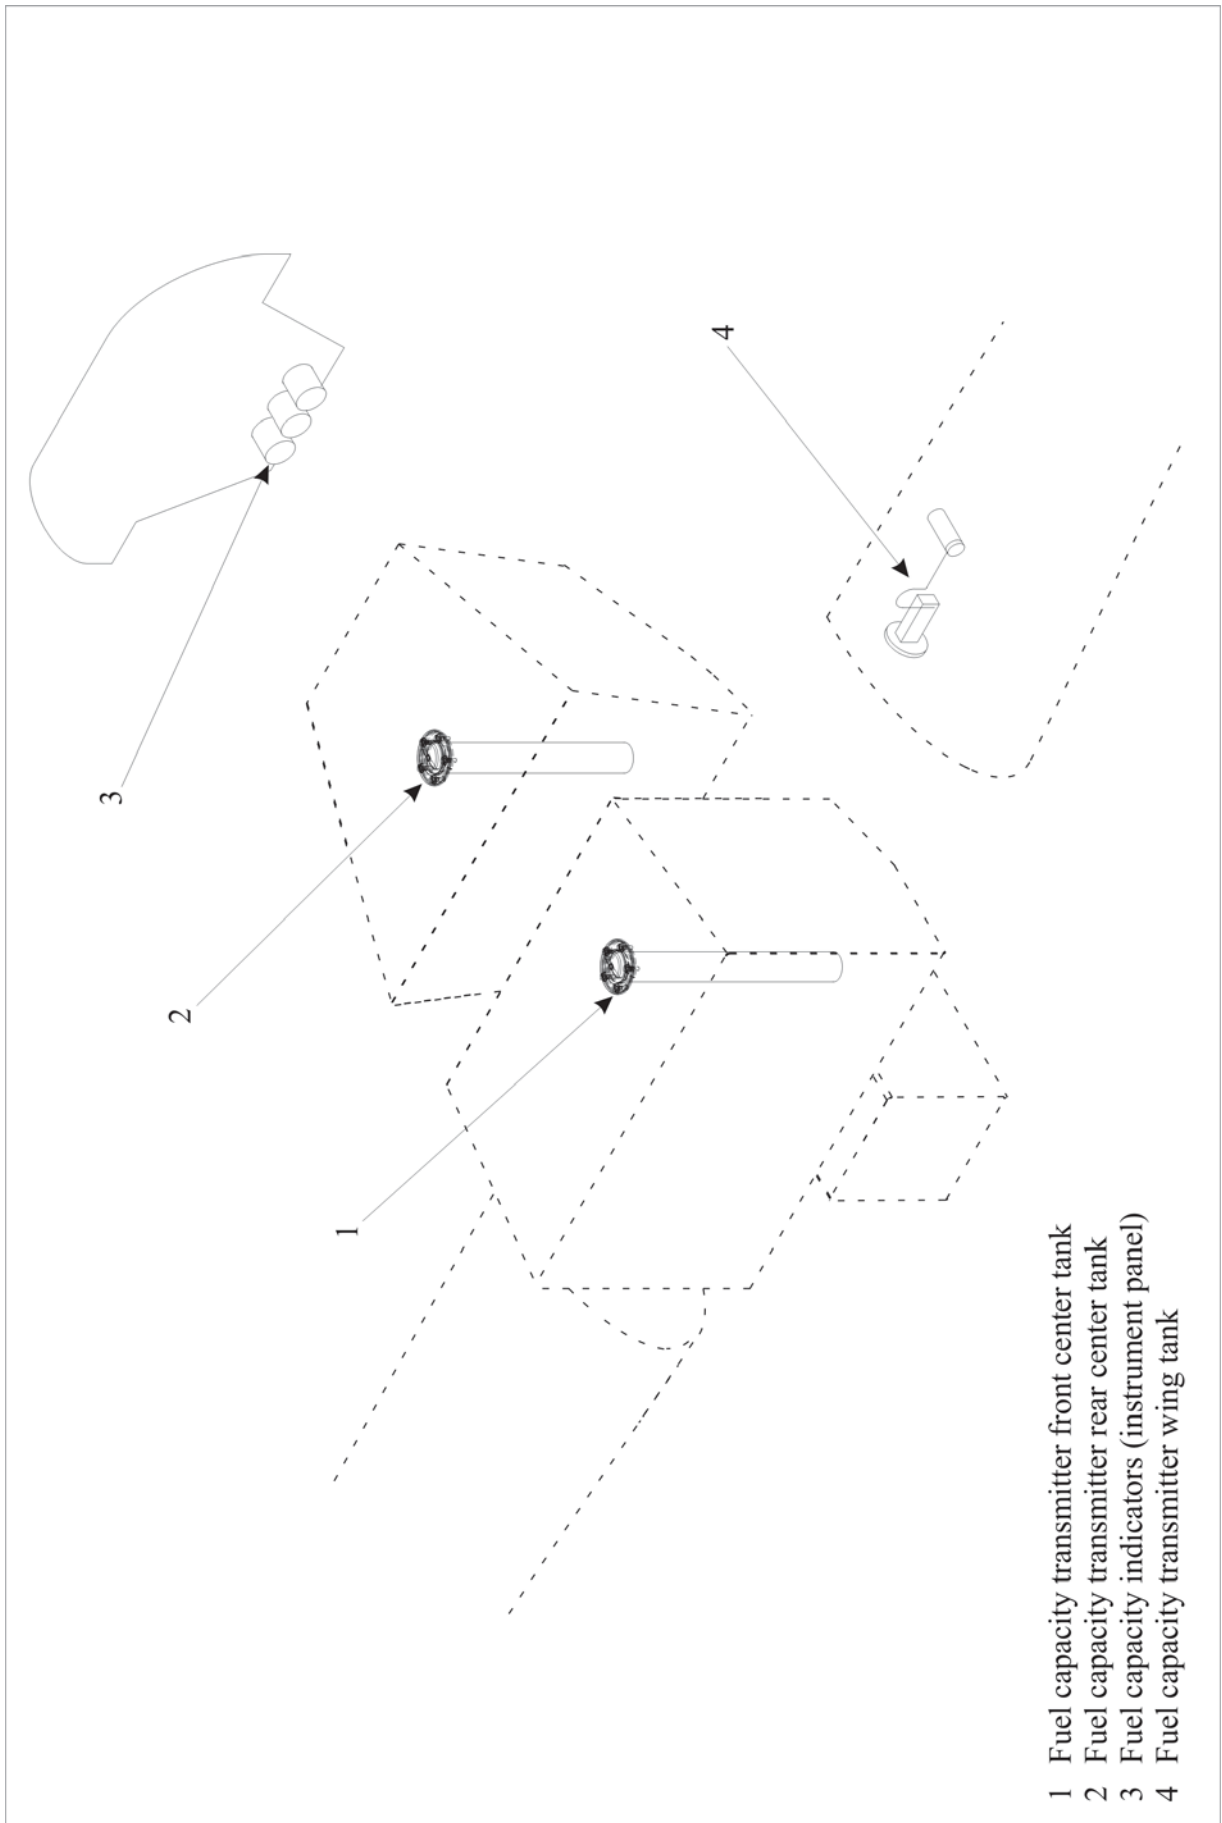

Figure 14
(Refer to Figure 14) For fuel contents indicating the center tanks are equipped with tubular tank units (1 & 2) and the left wing tank with a lever-type tank unit (4).